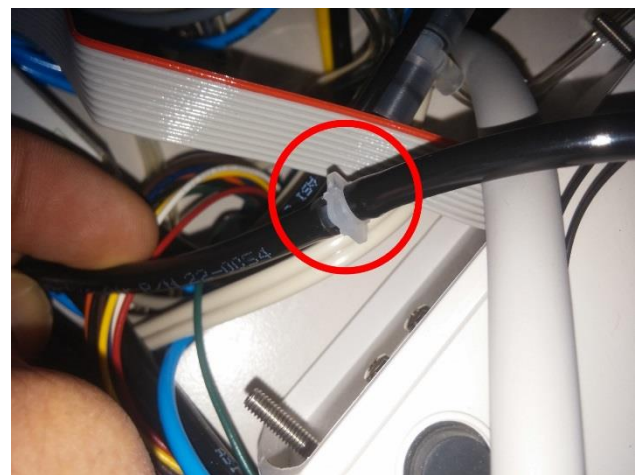

Fig. 5
- Attach new A/E switch using connector barb to cut tubing from control block. (Fig. 5)